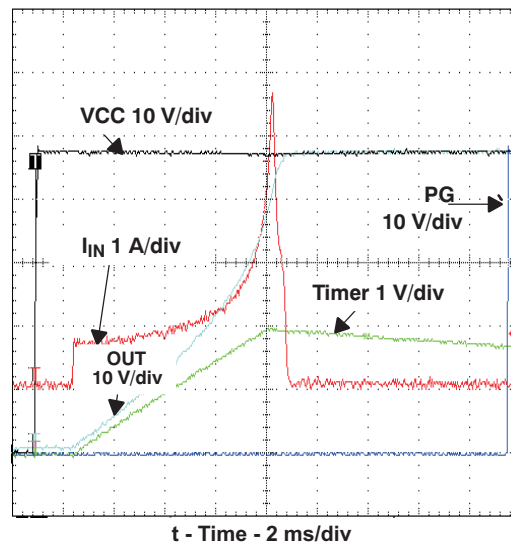
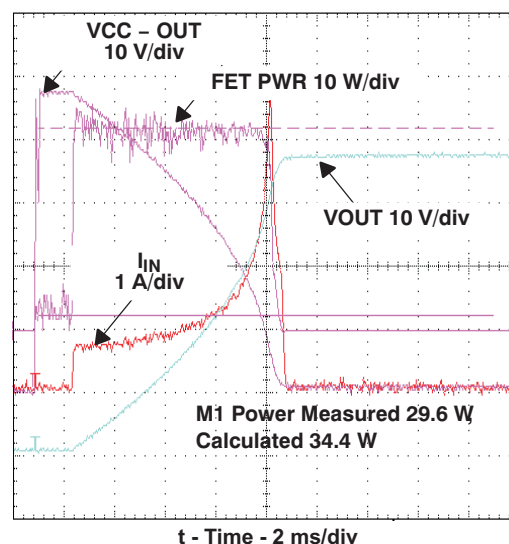
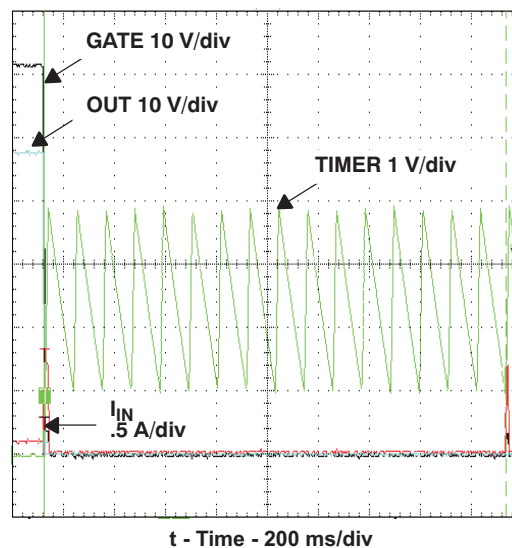

Figure 13. Basic Board Insertion
Figure 14. Computation of Q1 Stress During Startup
Figure 17. TPS2491 Restart Cycle Timing
A capacitor may be tied from PROG to ground to alter the natural constant power inrush current shape. If properly designed, the effect is to cause the leading step of current in Figure 13 to look like a ramp.
The typical application circuit, and oscilloscope plots of Figure 13 through Figure 17 demonstrate many of the functions described Device Functional Modes.
7.4.1 Board Plug-In (Figure 13)
7.4.2 TIMER and PG Operation (Figure 13)
7.4.3 Action of the Constant Power Engine (Figure 14)
The calculated power dissipated in Q1, $V_{DS} \times I_D$, is computed under the same startup conditions as Figure 13. The current of Q1, labeled I_{IN} , initially rises to the value that satisfies the constant power engine; in this case it is $34 \text{ W} \div 48 \text{ V} = 0.7 \text{ A}$. The 34 W value is programmed into the engine by setting the PROG voltage using Equation 2 given in the PROG. V_{DS} of Q1, which is calculated as $V_{(SENSE-OUT)}$, falls as C_O charges, thus allowing the Q1 drain current to increase. This is the result of the internal constant power engine adjusting the current limit reference to the GATE amplifier as C_O charges and V_{DS} falls. The calculated device power in Figure 14, labeled FET PWR, is seen to be flat-topped and constant within the limitations of circuit tolerance and acquisition noise. A fixed current limit is implemented by clamping the constant power engine's output to 50 mV when V_{DS} is low. This protection technique can be viewed as a specialized form of foldback limiting; the benefit over linear foldback is that it yields the maximum output current from a device over the full range of V_{DS} and still protects the device.
7.4.5 Automatic Restart (Figure 17)
A capacitor can be connected from the PROG pin to ground to reduce the initial current step seen in Figure 13 based on the 代表的なアプリケーション circuit. This method maintains a relatively fast turn-on time without the drawbacks of a gate-to-ground capacitor that include increased short circuit response time and less predictable gate clamping.